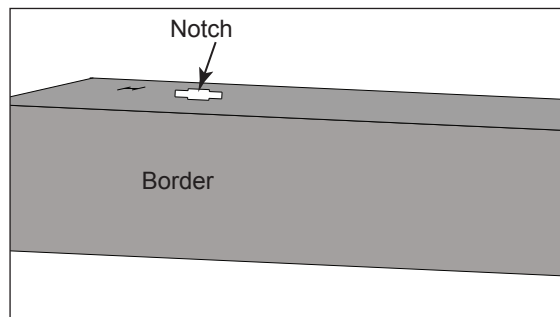
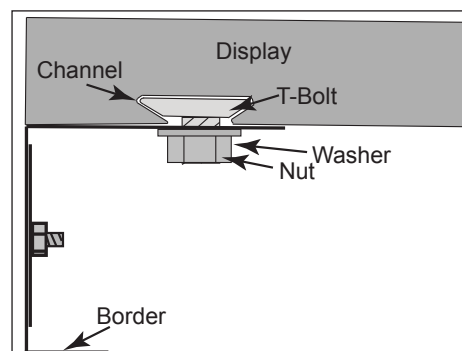

Figure 16: Border Notch
Figure 17: Border Installation Profile
2. Push the border T-bolts through the border T-bolt notch. Turn the bolt 90° to lock the bolt into the channel. Refer to **Figure 16** and **Figure 17**.
6. Tighten the border T-bolts. Refer to **Figure 17**.